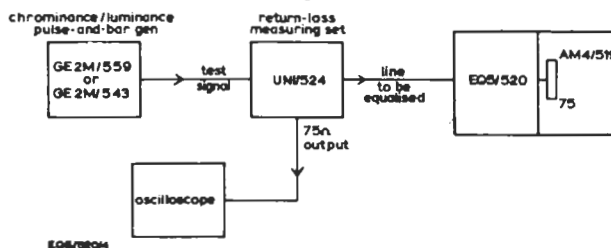

Fig. 4. Return Loss Measurement and Adjustment of Inductors
4. Connect the equaliser to the gain amplifier which it normally feeds. With the equipment connected as shown in Fig. 4 adjust inductors L1, L2 and L3 for a return loss of better than 40 dB. The adjustments are carried out through holes in the mounting surfaces of the equaliser. If a return-loss measurement set is not available, the inductors can be adjusted by observing the